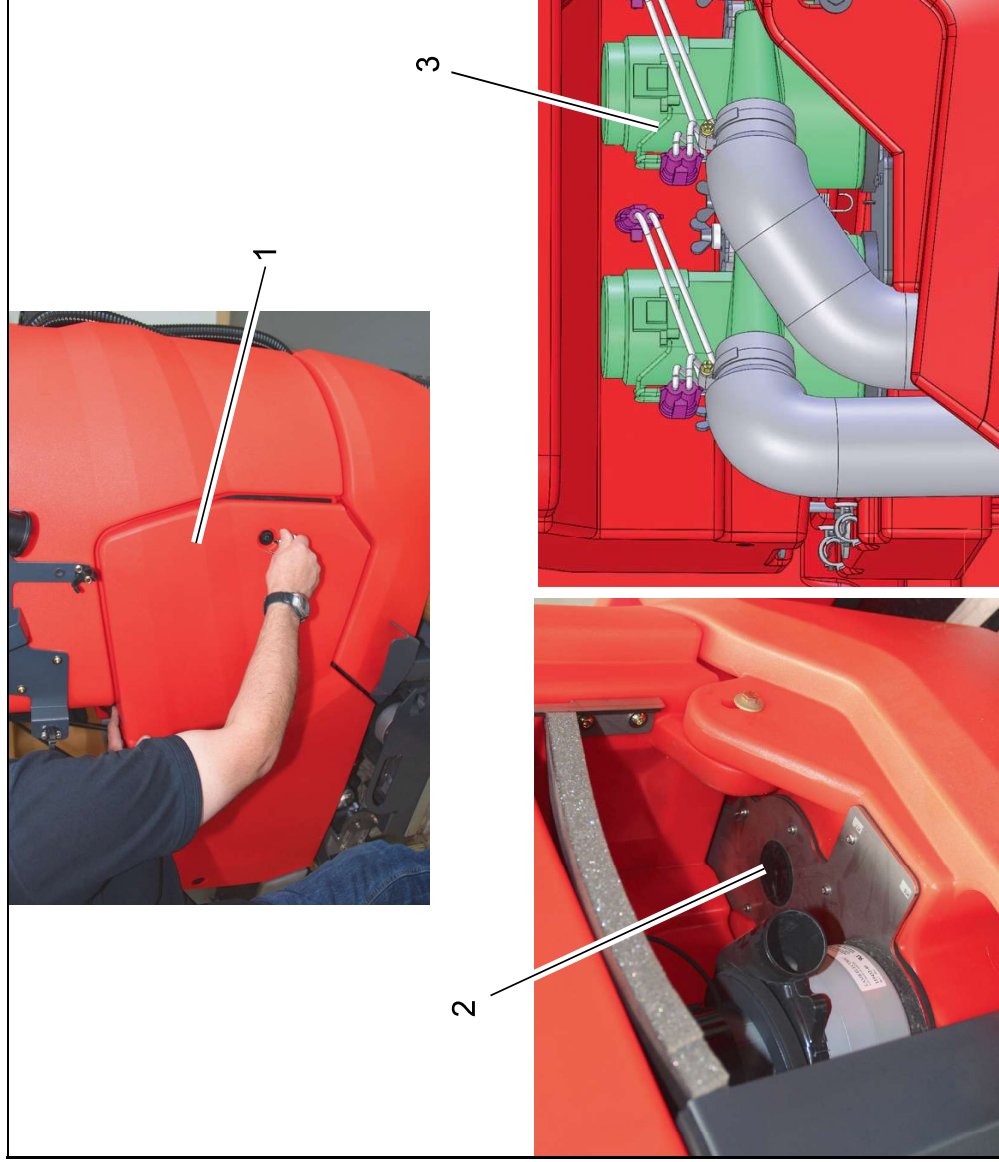

Fig. 2
1. Open side panelling with provided wrench and remove (Fig. 2/1).
2. Remove sealing plugs from plate of suction turbine (Fig. 2/2).
4. Install suction turbine in machine (Fig. 2/3). During installation, ensure that the recess of the suction turbine is fully inserted into the drill hole of the plate.